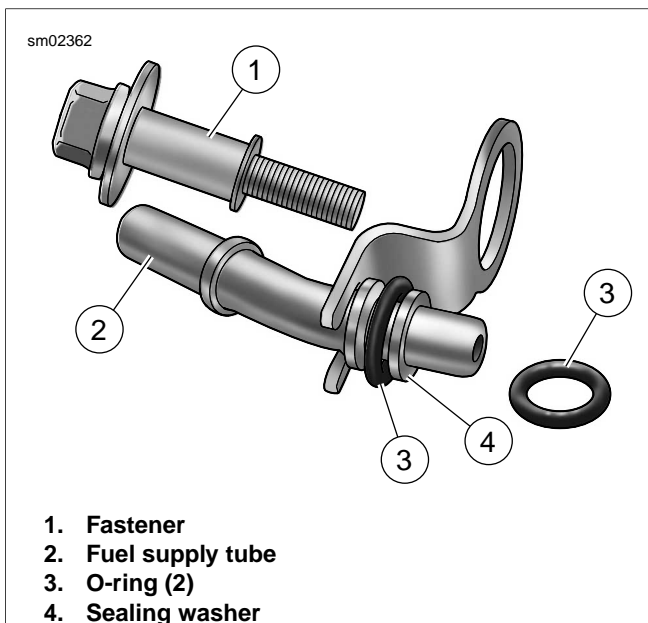
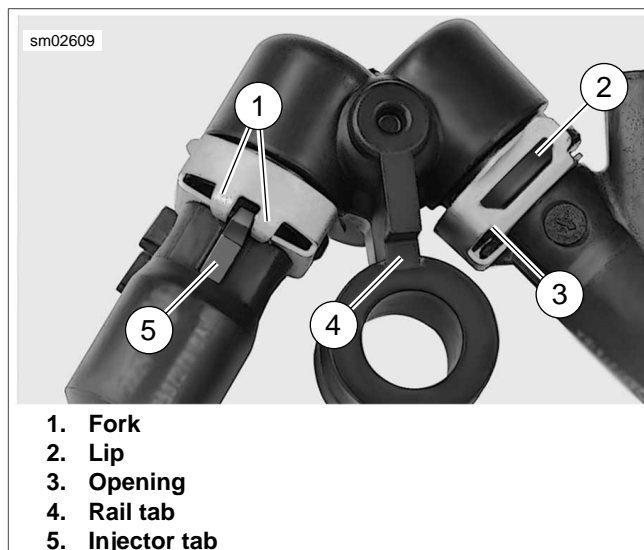

Figure 4-30. Fuel Supply Tube
Figure 4-31. Fuel Rail
2. See Figure 4-30. Remove fastener (1) retaining fuel supply tube (2).
3. Pull fuel supply tube from fuel rail. Remove sealing washer (4) and o-ring (3) from fuel supply tube. Remove second o-ring from fuel rail bore. Discard sealing washer and o-rings.
4. See Figure 4-31. Pull fuel injectors with attached fuel rail from induction module. To overcome the resistance of the bottom O-ring on both fuel injectors, gently rock assembly back and forth while pulling.
2. See Figure 4-31. Push electrical connector side of fuel injectors into fuel rail.
3. With the concave side toward the fuel rail, install spring clip into slot on fuel injector. In the installed position, openings (3) in sides of clip engage lip (2) on fuel rail, while fork (1) at back of clip captures rail tab (4) on fuel injector.
5. See Figure 4-30. Slide **new** o-ring (3) down shorter neck of the fuel supply tube until it contacts the collar. Slide **new** sealing washer (4) down tube until it contacts O-ring. Install second o-ring (3) in fuel rail bore.
6. Push fuel supply tube (2) into fuel rail bore until clamp is seated on round step of fuel rail. Install fastener (1) and tighten to 90-110 **in-lbs** (10.2-12.4 Nm).